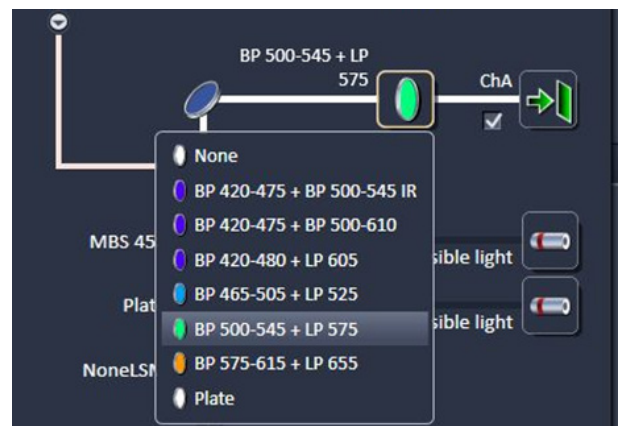

Fig. 119 Airyscan detector: Mirror and emission filters selection
- Select an emission bandpass filter according to the dyes you need to detect in single track or multitrack acquisition mode (Fig. 119).